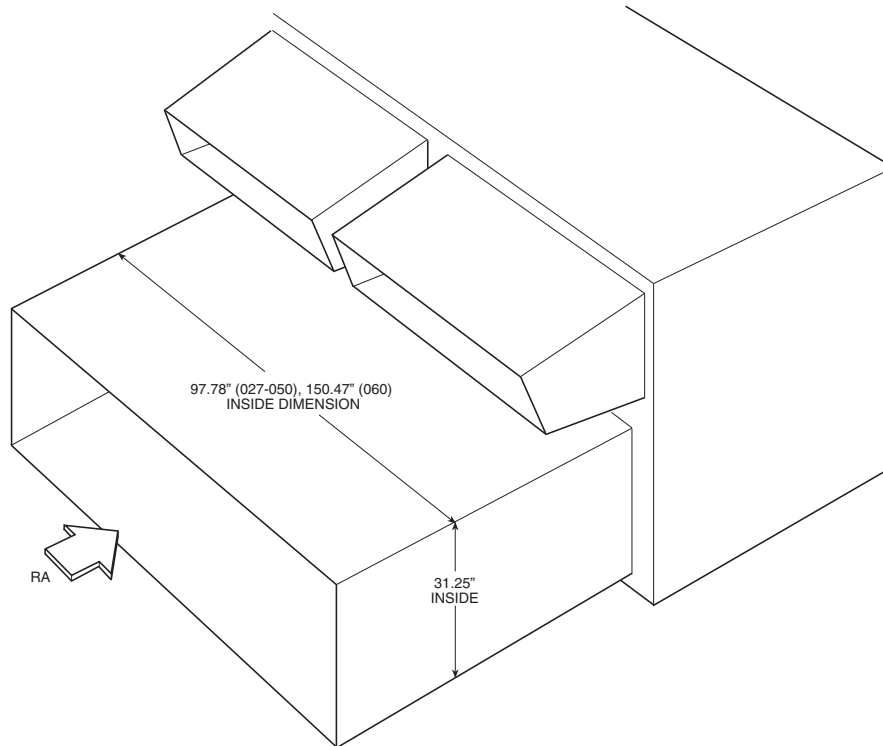

Fig. 42 — Side Return Duct Dimensions
3. Run the return air ductwork up to the openings. One single duct is recommended to connect to the unit over the return air openings. See Fig. 42. The return duct must incorporate a minimum 3/4-in. flange for connection to the unit cabinet. The unit does not have duct flanges for this conversion.
Side Supply and Return Units (50A4,A5) with Field-Installed Power Exhaust in Return Duct — Space must be available in the return duct to mount the power exhaust fan (gravity relief) modules. Dimensions and suggested locations are shown in Fig. 42. These instructions are a guideline and not a comprehensive procedure. The design contractor must provide some design initiative.
may be run in the return duct as shown in Fig. 42 or externally in conduit. A service access panel will be needed near each power exhaust fan.